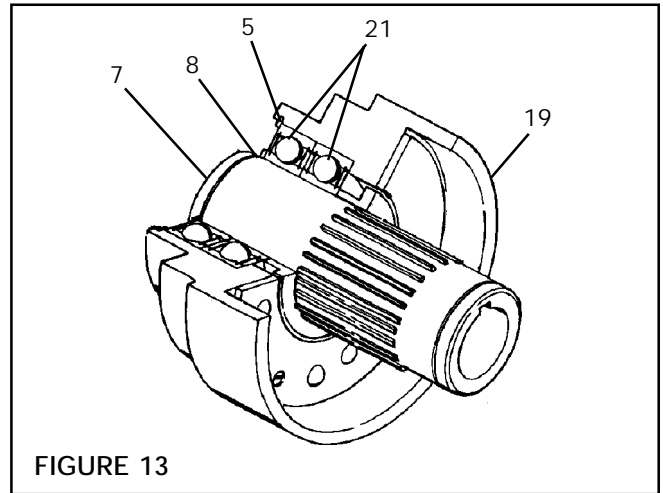

FIGURE 13
1. Remove Retaining Ring (Item 6) from Hub (Item 7) on Drive Flange end of Torque Limiter (See Fig. 13).
3. Remove Retaining Ring (Item 5) from Drive Flange (Item 19) (See Fig. 13).